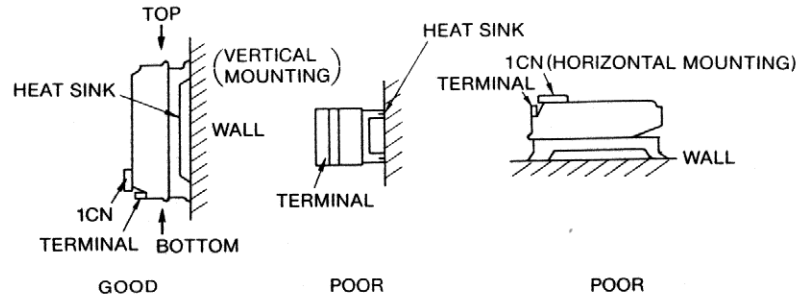

Fig. 9.5 Mounting Direction of *Servopack*
(3) Mounting Direction
Mount the unit vertically on the wall using the mounting holes (4) on the base plate, with main terminals at the bottom. (Fig. 9.5)